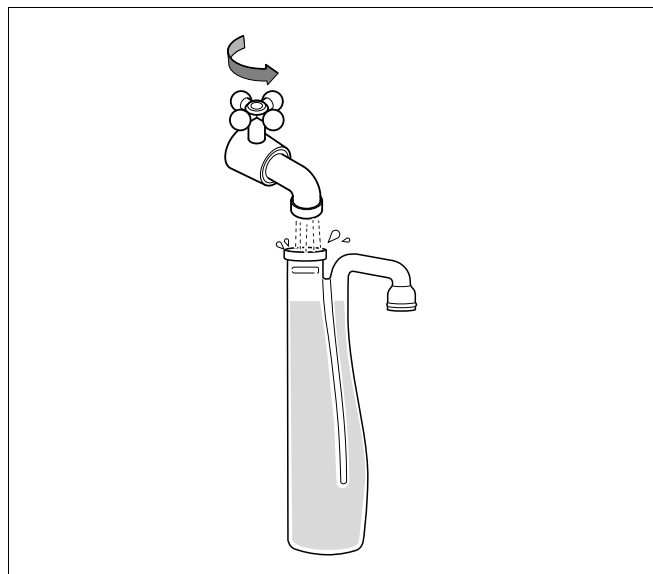

fig. 13 Filling the syphon with clean water
- Fill the syphon (supplied with the boiler) with clean water (fig. 13).